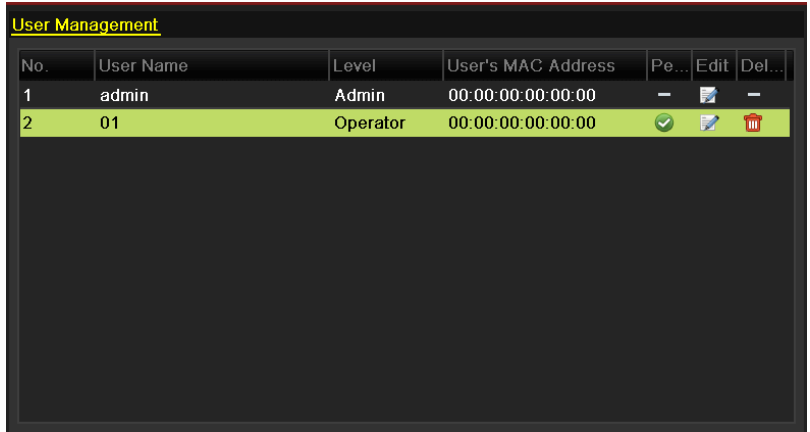

Figure 16. 9 User List
2. Select the user to be deleted from the list, as shown in Figure 16. 9.